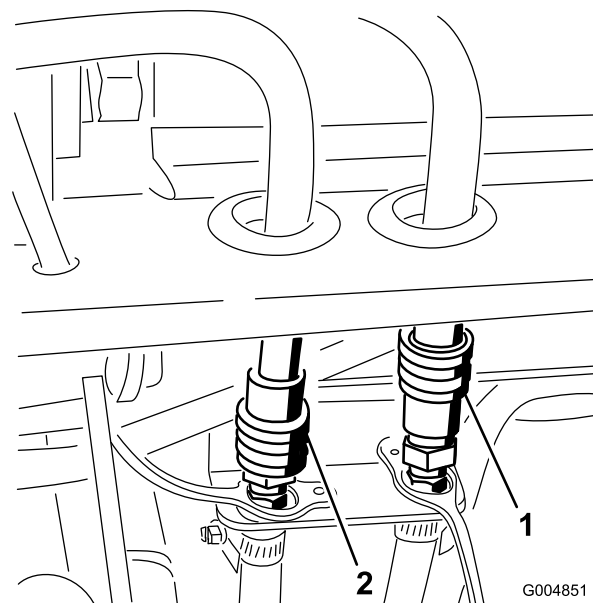

Figure 66
2. Connect the cab pressure and return heater hoses to the quick couplers on the rear frame mount (Figure 66).